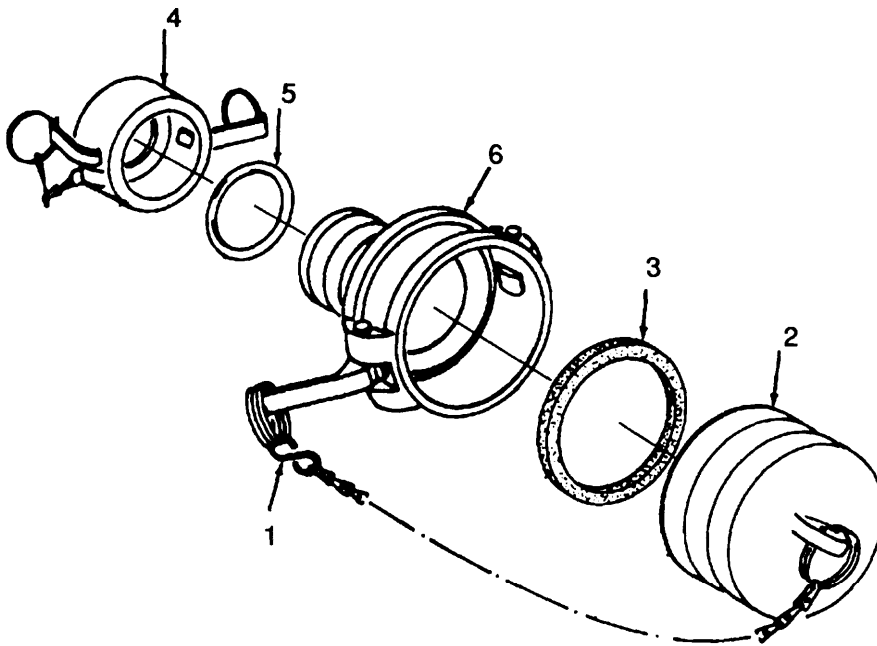

Figure 4-15. Adapter Assembly, Disassembly/Reassembly.
- (1) Inspect adapter assembly for missing dust plug or cap.
- (2) Inspect adapter assembly for damaged or missing camlock levers.
e. Disassembly. (Refer to Figure 4-15.)
- (1) Disconnect hook (1) and remove dust plug (2) and gasket (3), Discard gasket.
- (2) Remove dust cap (4) and gasket (5) from reducer (6). Discard gasket.
- (1) Refer to Figure 4-15 and install new gasket (5) and dust cap (4).
- (2) Install new gasket (3) and dust plug (2).
- (3) Connect hook (1) to camlock lever.